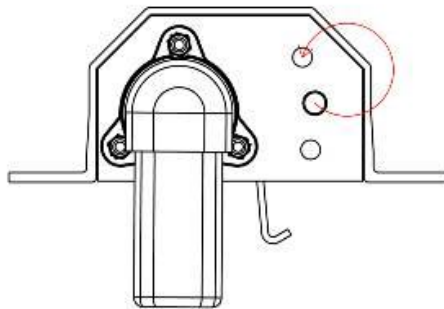

Fig. 5
- 16) Move the clevis pin in both the driver and passenger side pivot boxes to the top hole (see Fig. 5).